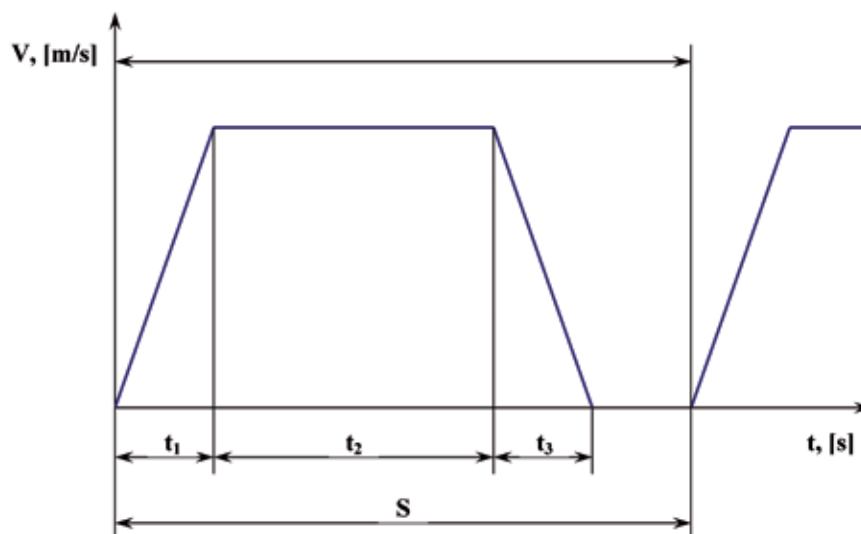

Figure 2.5 Velocity/time diagram
- Velocity diagram (Figure 2.5)